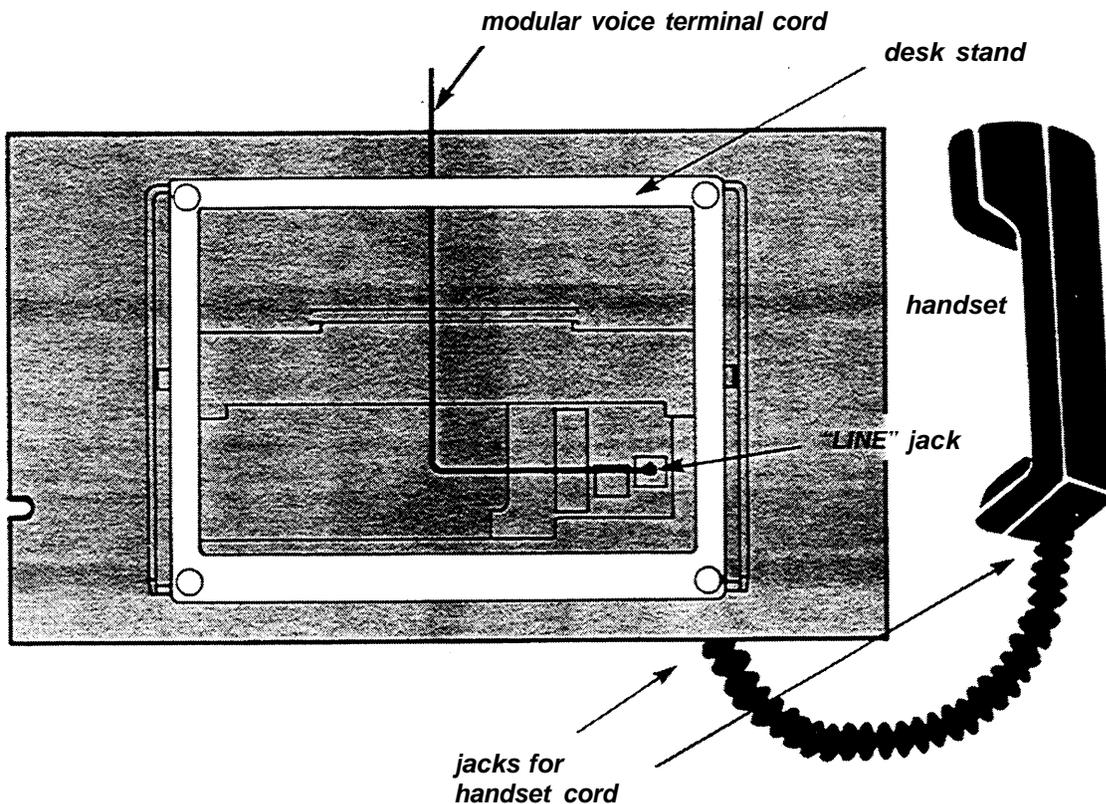

Figure 7.
2. Plug the other end of the handset cord into the jack on the bottom right corner of the console (see Figure 7).
3. Place one end of the modular voice terminal cord (marked D8W on its jack) under the desk stand's support bar and over the base of the desk stand (see Figure 7). Plug it into the "LINE" jack on the bottom of the attendant console.